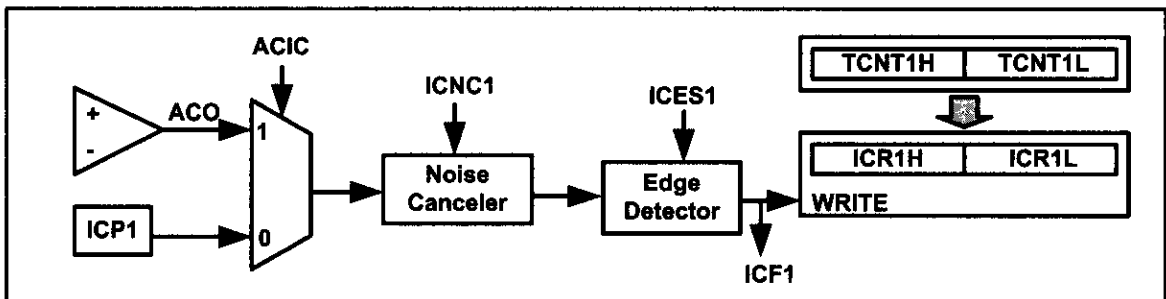

Figure 15-17. Capturing Circuit
As shown in Figure 15-17, there are two event sources: (1) the ICP1 pin, which is PORTD.6 in ATmega32, and (2) the output of the analog comparator. We can use the ACIC flag to select the event source. ACIC is a bit of the ACSR register, as shown in Figure 15-18.
ACO (Analog Comparator Output) The output of the analog comparator is connected to the bit. ACO is read only. See Figure 15-17.
ACIC (Analog Comparator Input Capture Enable) When the bit is one, the input capture is triggered by the Analog Comparator; otherwise, the ICP1 pin (PD6 in ATmega32) provides the capturing signal. See Figure 15-17.
As shown in Figures 15-17 and 15-19, we use the TCCR1B register to select the type of edge detection and activate/deactivate the noise canceller unit.